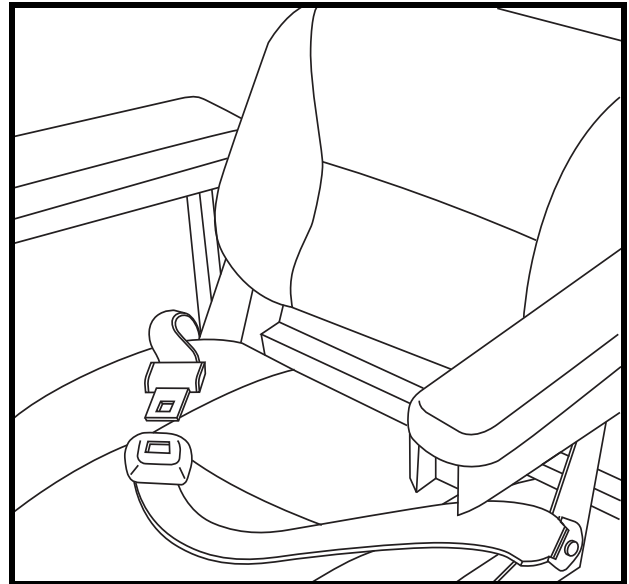

Figure 19. Positioning Belt
1. Insert the metal tab on the right side of the belt into the plastic housing on the opposite strap until you hear a “click.” **See figure 19.**